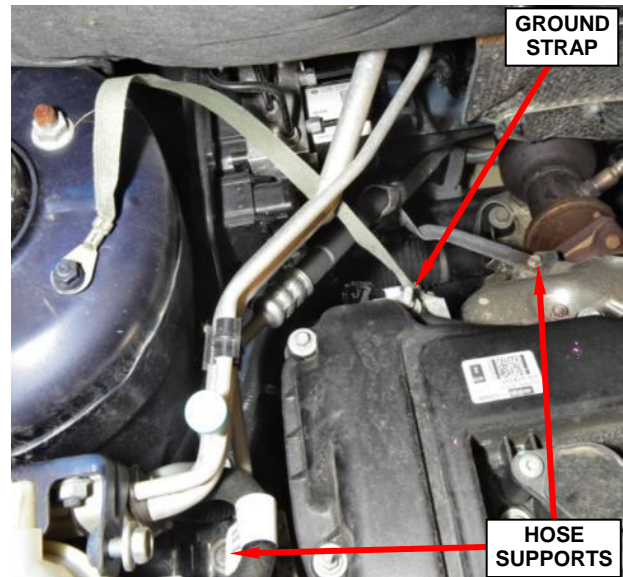

Figure 24 – Power Steering Hose
82. Remove and save the bolt from the engine which secures the ground strap between the right strut tower and engine head (Figure 24).
83. Remove and save the bolts from the power steering hose supports located at the exhaust manifold and the engine mount (Figure 24).